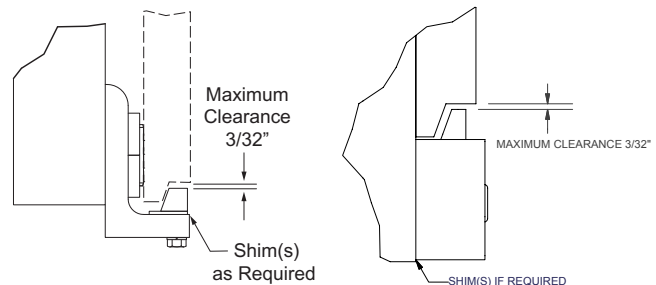

Figure 3-3, Lower Hook Clearance
8. Install the bolt-on lower hooks. Inspect clearance to the carriage on lower hooks. Adjust the lower hooks for a maximum clearance of $3/32$ " (see Figure 3-3). Tighten the bolts to **40-50 ft-lbs**.